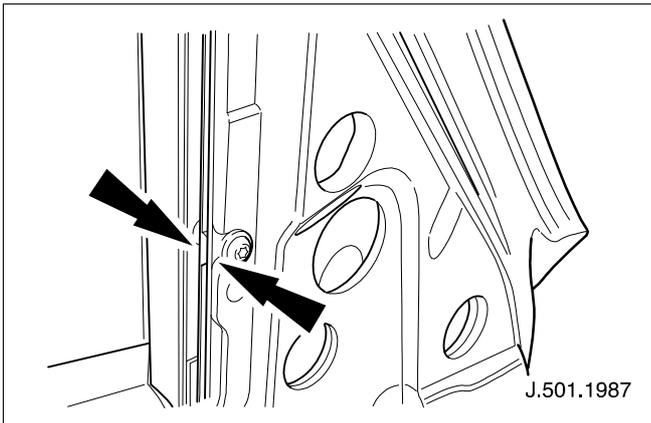

Fig. 5
- 3 Check that the rear of the guide leg upper fixing boss is level with the guide leg BIW flange rear edge (see Fig. 5) and ensure that the glass seal shot molding is fitted as per Appendix 1.